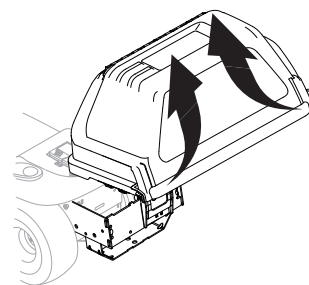

Figure 17
8. Open the bagger cover by pushing in on the tabs and lifting the upper grass catcher cover. See Figure 17.